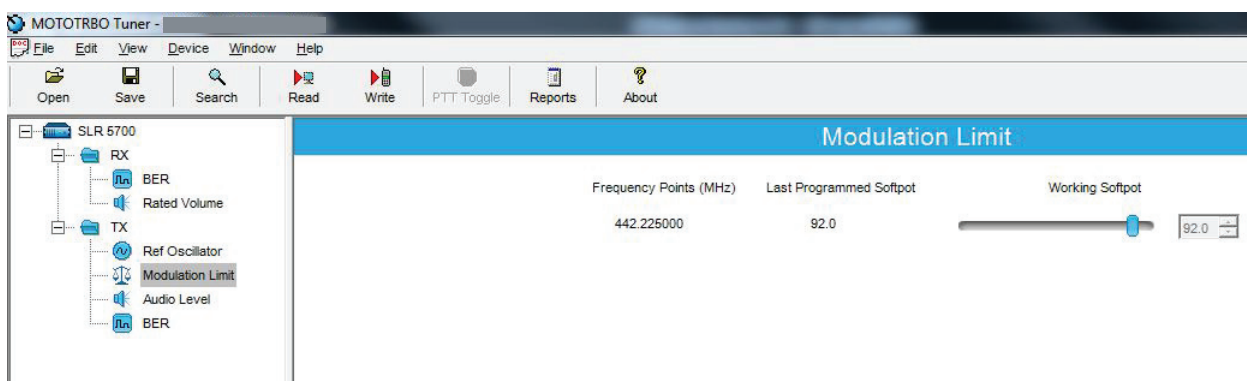

Figure 10-9 Tx Menu tree (Tuning Procedure with no Tx data)
5. Select "Modulation Limit" under the Tx menu in the tree view (See Figure 10-9).